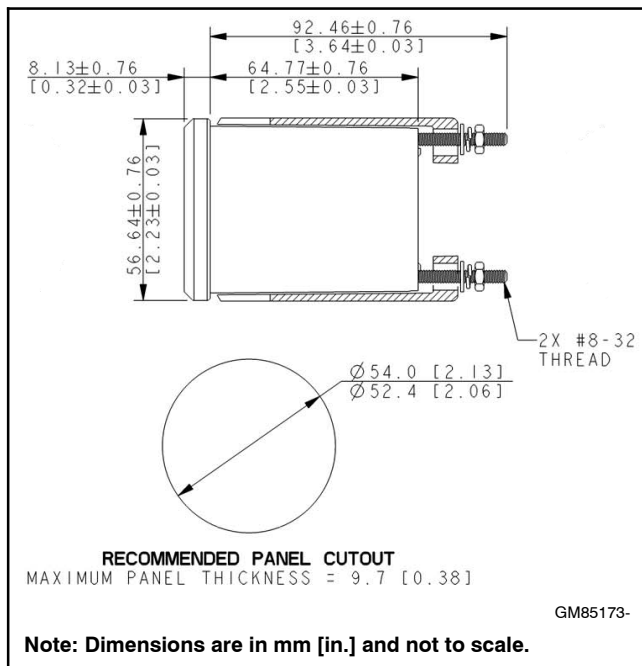

Figure 2 Two-Inch Digital Gauge Mounting Dimensions
2. See Figure 2 for the gauge mounting dimensions.